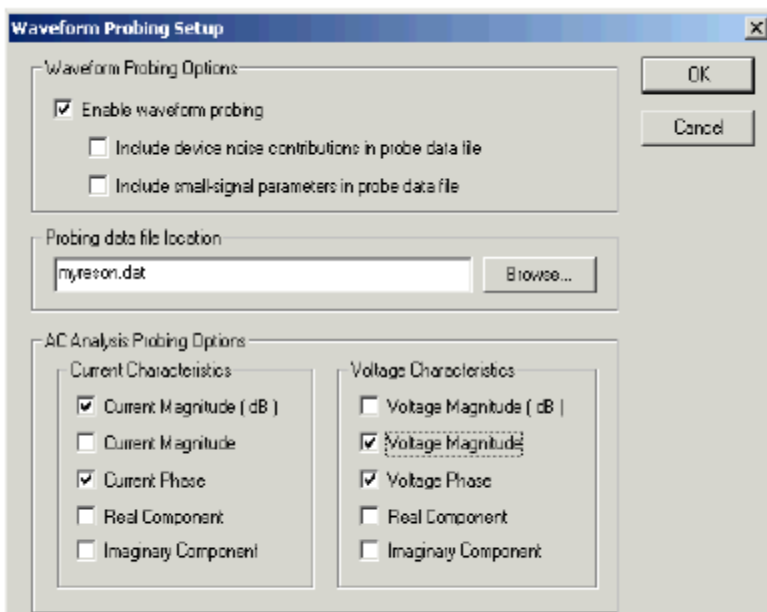

Figure 7: Waveform Probing Setup dialog box
- ✂ In the **AC Analysis Probing Options**, check the **Current Magnitude (dB)**, **Current Phase**, **Voltage Magnitude** and **Voltage Phase** boxes as shown in Figure 7.